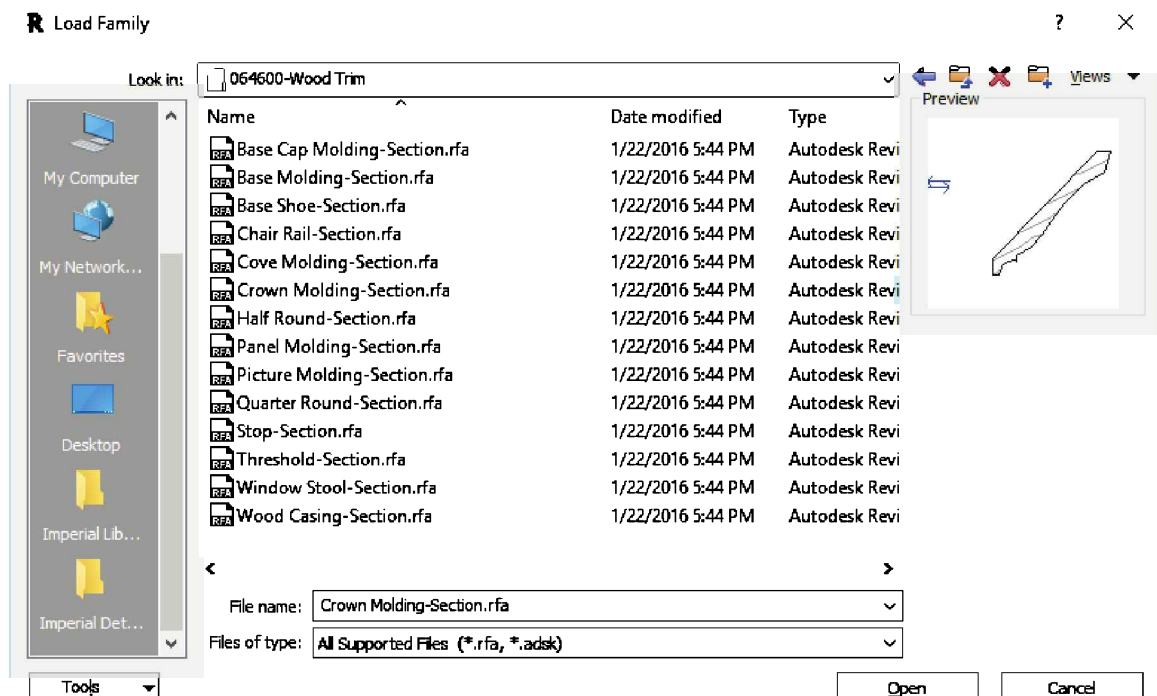

FIGURE 10-4.11 Load Detail Component dialog
28. Double-click the file named **Crown Molding-Section.rfa** (Figure 10-4.11).